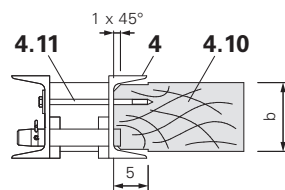

Fig. C1.15
The timber ends (4.10) are to be adapted to the U120 profile of the strongback (4) through chamfering and notching. For fixing with wood screws 8 x 160 and washers (4.11), use the drilled holes in the strongback web. (Fig. C1.15)